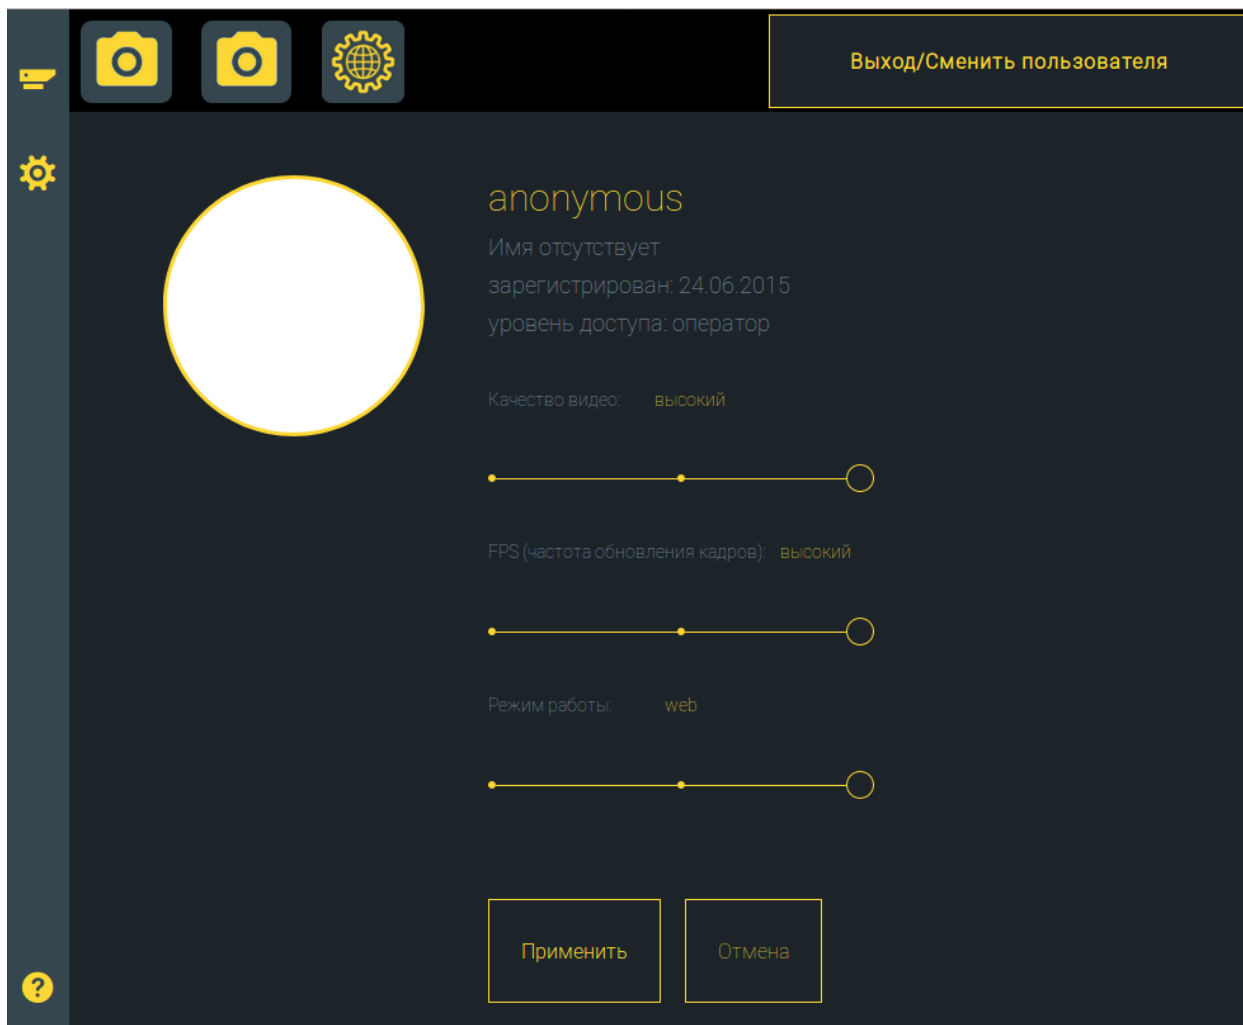

Figure 5.5 Camera settings panel.
2. Go to the settings section by clicking on the icon in the upper left corner. The camera settings panel will open in the browser (Figure 5.5).
2. Go to the settings section by clicking on the icon in the upper left corner. The camera settings panel will open in the browser (see figure 5.5).